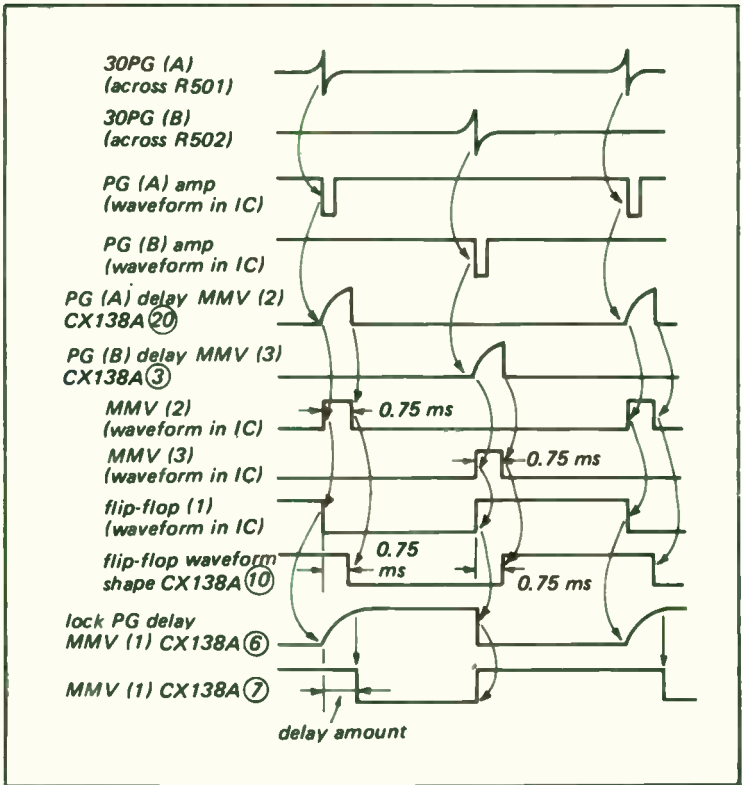
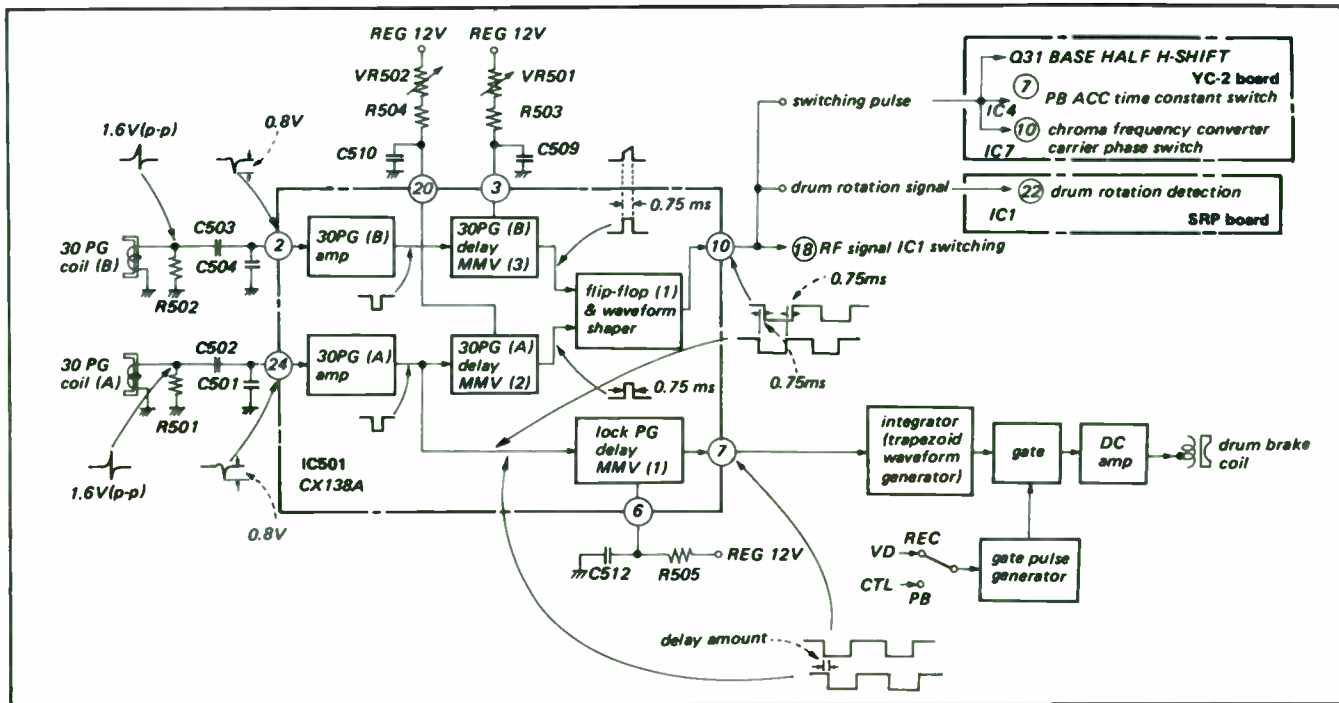

Fig. 3-5. Timing chart of 30 PG pulse circuit.
Fig. 3-6. 30 PG pulse circuit.
The distance of PG coils (A) and (B) from the center of the drum are different and each generates one pulse for each rotation of the drum. The negative-going pulse of the PG coil output is used to indicate the rotating phase of the drum. The pole pieces, which are strong permanent magnets, pass across the coils and induce a pulse by electromagnetic induction. The small head drum diameter used in this machine requires the use of a permanent magnet system. The pole pieces cut across the coils at a slower relative speed than in the older model VCR machines. A timing chart of the 30 PG pulse circuit is shown in Fig. 3-5 and its block diagram in Fig. 3-6.